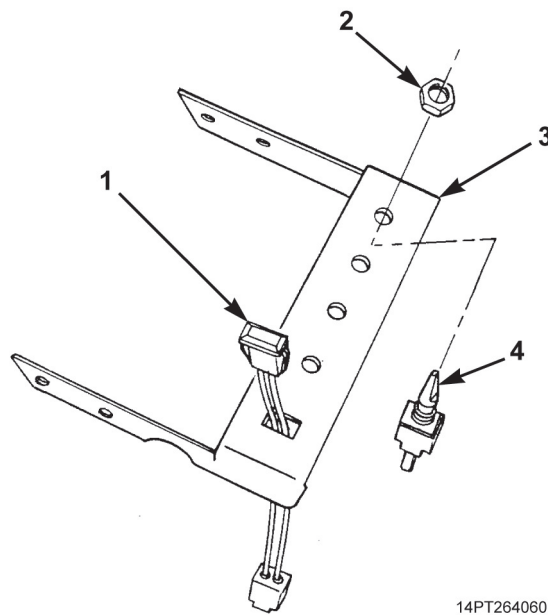

Figure 2. MCS Control Unit.
1. Remove indicator light (Figure 2, Item 1) from bracket (Figure 2, Item 3).
2. Remove four nuts (Figure 2, Item 2) and toggle switches (Figure 2, Item 4) from bracket (Figure 2, Item 3).
1. Install four toggle switches (Figure 2, Item 4) on bracket (Figure 2, Item 3) with four nuts (Figure 2, Item 2).
2. Install indicator light (Figure 2, Item 1) on bracket (Figure 2, Item 3).